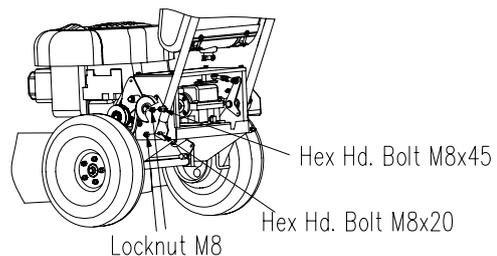

FIG1
- Attach the handlebars with two Hex Hd. bolts, Locknuts and Washers on each side as show in FIG1